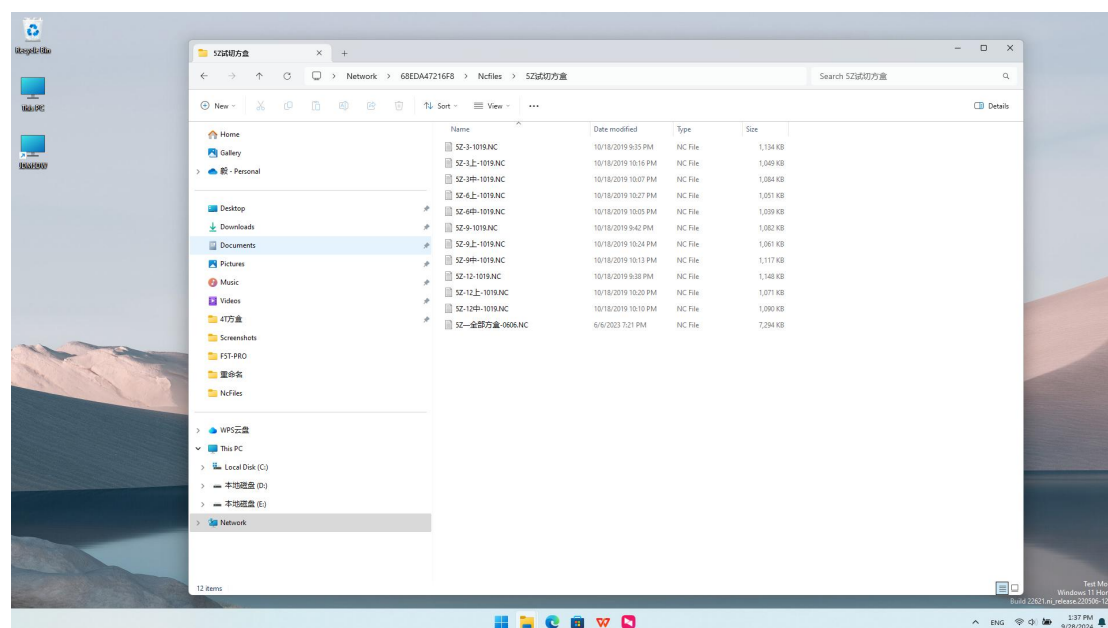

Figure 7.2.13
(13) As shown in Figure 7.2.13, you can view the NC files inside the machine tool through the industrial control computer. You can also remotely copy, transfer, or delete the NC files.